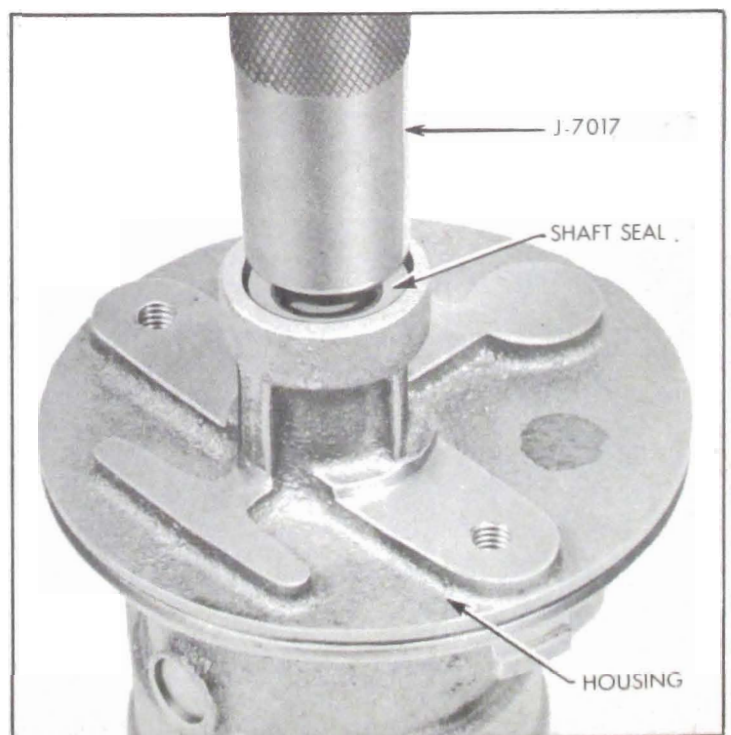

Figure 8-60—Installing Shaft Seal
2. If shaft seal was removed, use Installer J-7017 to drive new seal into housing with spring side of seal toward housing. See Figure 8-60. Seal must be firmly seated in housing.